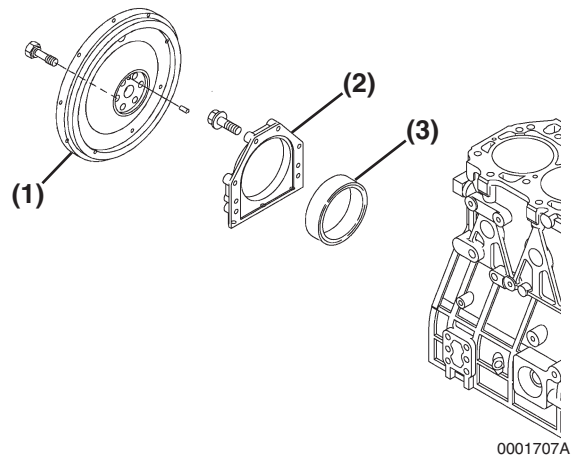

Figure 6-112
3. Remove the rear oil seal (**Figure 6-112, (3)**) from the seal housing (**Figure 6-112, (2)**).
4. Apply a continuous bead of ThreeBond Liquid Gasket No. 1212, Yanmar Part No. 977770-01212 to the outside diameter of a new oil seal (**Figure 6-112, (2)**), and install in the housing. Apply lithium grease to the lip of the seal.